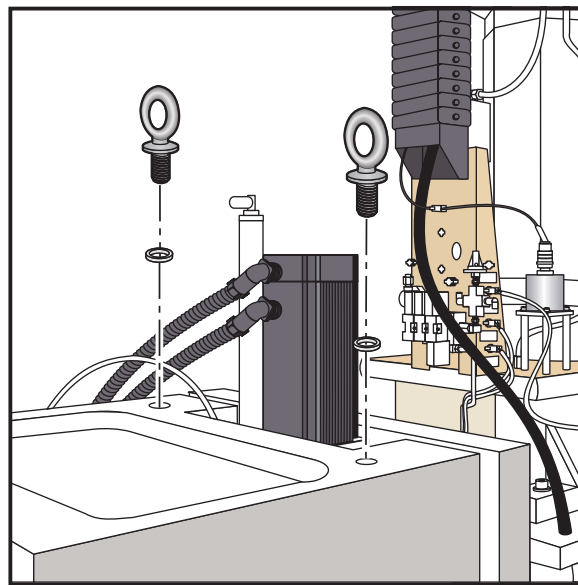

Fig. 12.26-4 VF-3/VF-4 eyebolt locations.
4. Install (2) 3/4"-10 x 1 1/4" eyebolts and (2) 3/4" hard washers to the column casting as shown in Figure 12.26-4. Tighten securely.